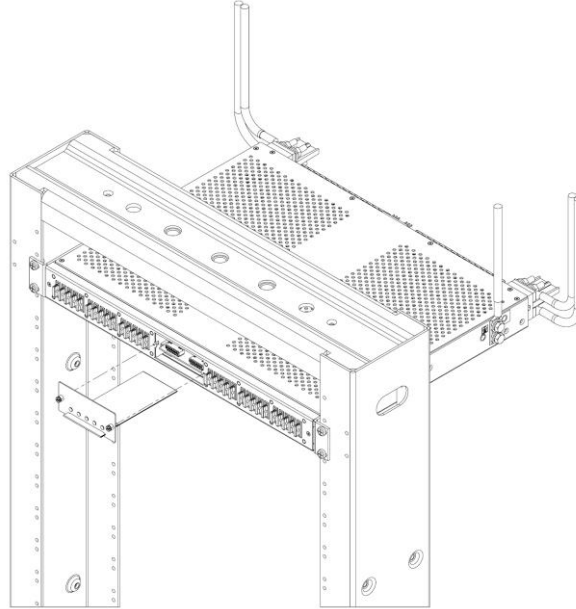

Fig. 2-6: Removing the alarm cover
16. Remove alarm cover by using Phillips screwdriver, as shown in Fig. 2-6. Once the front cover has been taken off the panel, remove and discard the small pink packaging foam piece inside the front cover.